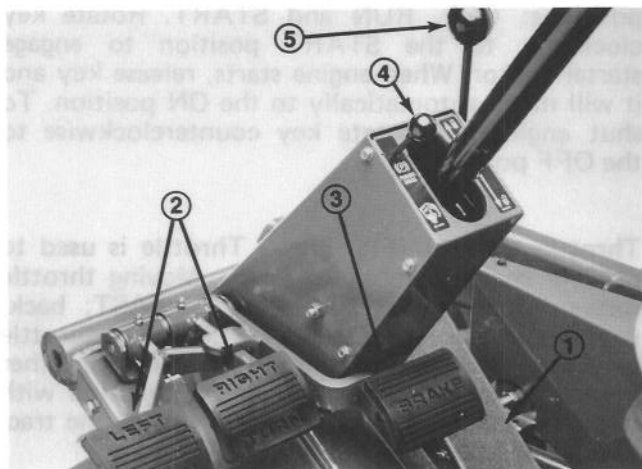

Figure 21
**Traction Pedal (Fig. 21)** – Traction pedal has two functions; one is to make the machine move forward, the other is to make it move backward. Using the heel and toe of the right foot, depress top of pedal to move forward and bottom of pedal to move backward. Ground speed is proportionate to how far pedal is depressed. For maximum ground speed with no load, traction pedal must be fully depressed while throttle is in FAST position. Maximum speed forward is approximately 9.5 mph (15 km/hr). To get maximum power under heavy load or when ascending a hill, have throttle in FAST position while depressing traction pedal slightly to keep engine rpm high. When engine rpm begins to decrease, release traction pedal slightly to allow engine rpm to increase.
**Turn Pedals (Fig. 21)** – The left and right turn pedals are connected to the left and right front wheel brakes. Since both brakes work independently of each other, the brakes can be used to turn sharply or to increase traction if one wheel tends to slip while operating on a hillside. However, wet grass or soft turf could be damaged when brakes are used to turn.
**Tilt Steering Control (Fig. 21)** – Lever on right side of steering column. Pull lever rearward to, adjust steering wheel to desired fore or aft operating position and push lever forward to lock adjustment.
**Brake Pedal (Fig. 21)** – Whenever the engine is shut off, the parking brake must be engaged to prevent accidental movement of the machine.